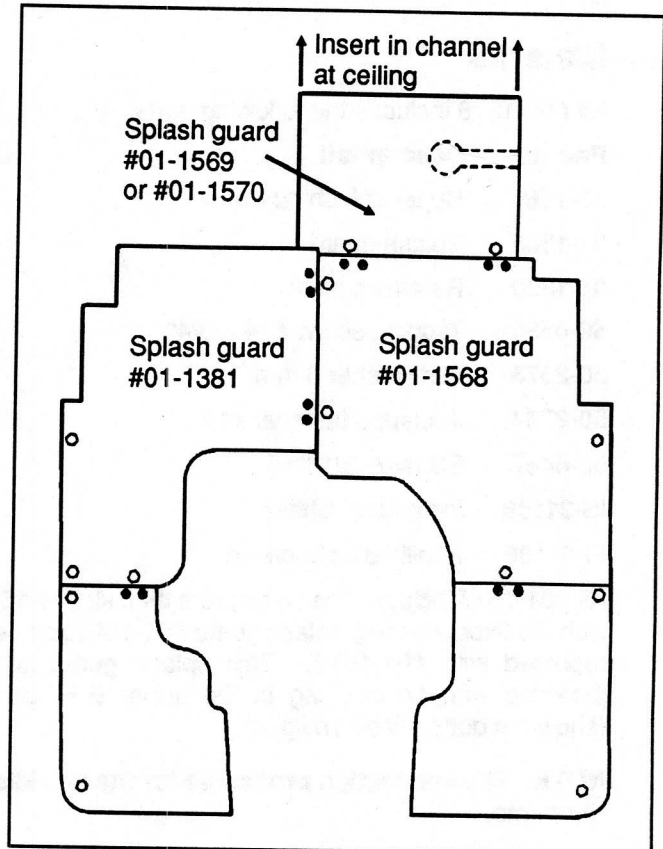

Figure 4
Kit #01-1577 includes the same parts than kit #01-1576, with the exception that splash guard #01-1569 has been replaced with #01-1570. This splash guard is not provided with an opening in the upper R.H. corner (shown in dotted lines on fig. 4).
11. According to transmission type, insert top of splash guard #01-1569 or #01-1570 in channel welded to ceiling and intended for this purpose, then fix bottom to both retaining plates fixed previously to splash guard #01-1568, using screws and flat washers (see fig. 4).